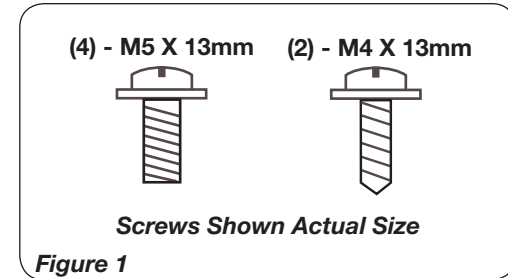

Figure 1
ASSEMBLY (Figures 1 through 5)
3. When the Heater is initially plugged in, there will be a “beep” and the **Power Light** will come on indicating that there is power to the unit. The **Power Light** will remain lit until the Heater is unplugged from the electrical outlet. (Figure 1)
6. Upon turning the Heater on, the unit will be in HIGH heat (H) (1500 Watts) and will display the current room temperature. (Figure 1)